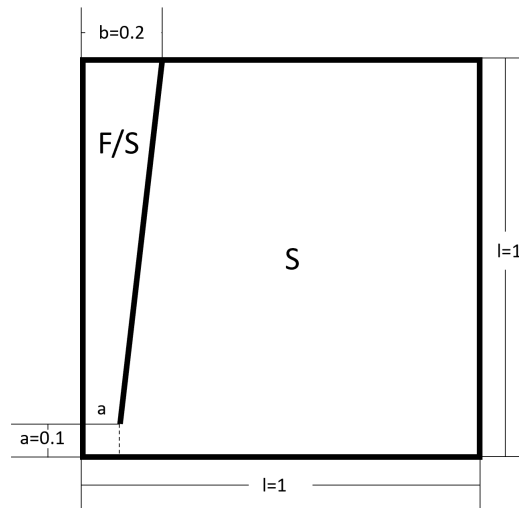

Figure 1: The Configuration Space for Problem 1
For the configuration space shown in Figure 1:
- (d) **(10 points)** Imagine that you extrude this configuration space to 3 dimensions. Essentially, this is a 3D configuration space composed of stacked 2D slices, each slice being the configuration space shown in Figure 1. How will the $(\varepsilon, \alpha, \beta)$ values be affected by this change? Will they increase, decrease or remain unchanged? Explain.